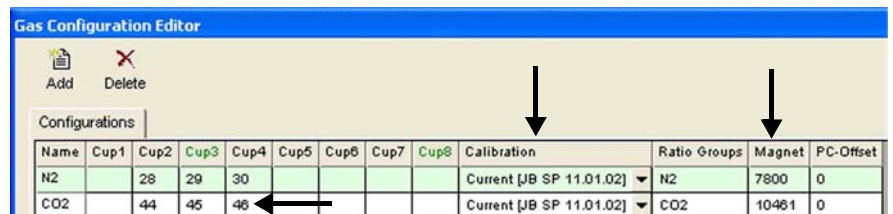

Figure 5-2. Creating new gas configuration
The new gas configuration CO2 appears in the list as a row of its own. See Figure 5-2.
10. In the **Calibration** column of Figure 5-2 select your current calibration file.
Note Figure 5-2 shows a common cup configuration as used in most Delta mass spectrometers, that is universal triple collector. If you have a special cup configuration, the respective masses will be collected in other cups! ▲
11. In Figure 5-2 type in the correct masses (44, 45 and 46) to the appropriate cups specific for your IRMS.